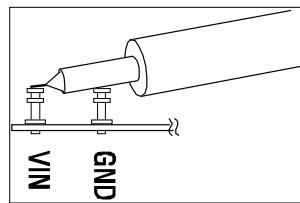

Figure 2. Measuring Input or Output Ripple
**NOTE:** When measuring the input or output voltage ripple, care must be taken to avoid a long ground lead on the oscilloscope probe. Measure the input or output voltage ripple by touching the probe tip directly across the Vin or Vout and GND terminals. See the proper scope probe technique in figure 2.
5. Set the load current of both outputs to 3A and the input voltage to 5.5V, and then measure each output ripple voltage (refer to figure 2 for proper measurement technique); they should each measure less than 30 mVAC. Also, observe the voltage waveform at either switch node of each regulator. The switching frequencies should be between 1.85 MHz and 2.65 MHz ( $T = 540$  ns and 374 ns). In all cases, both switch node waveforms should be rectangular in shape, and 180° out-of-phase with each other. Change the shunt position on header J5 to set the switch waveforms in phase with respect to each other. To operate the ckt.s in Burst Mode™ or pulse-skip mode, change the shunt in header J7. When finished, insert shunts XJ1 and XJ2 to the OFF position(s) and disconnect the power.